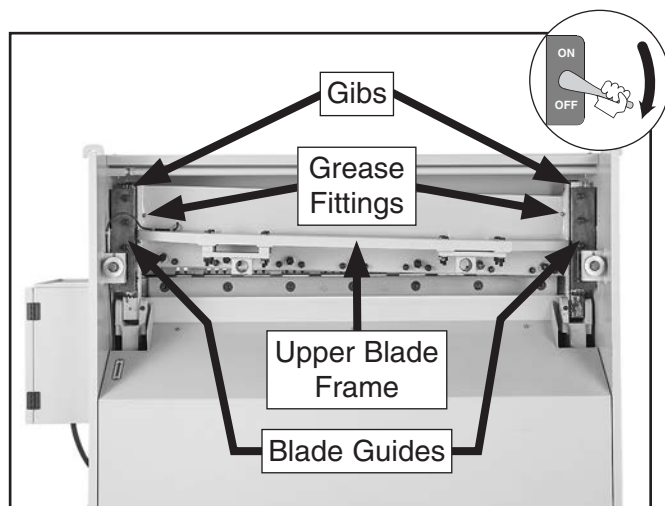

Figure 44. Lubrication points for blade guides and gibs (rear work stop removed for clarity).
2. Clean grease fittings on upper blade frame, and wipe old grease off blade guides behind gibs (see **Figure 44**).